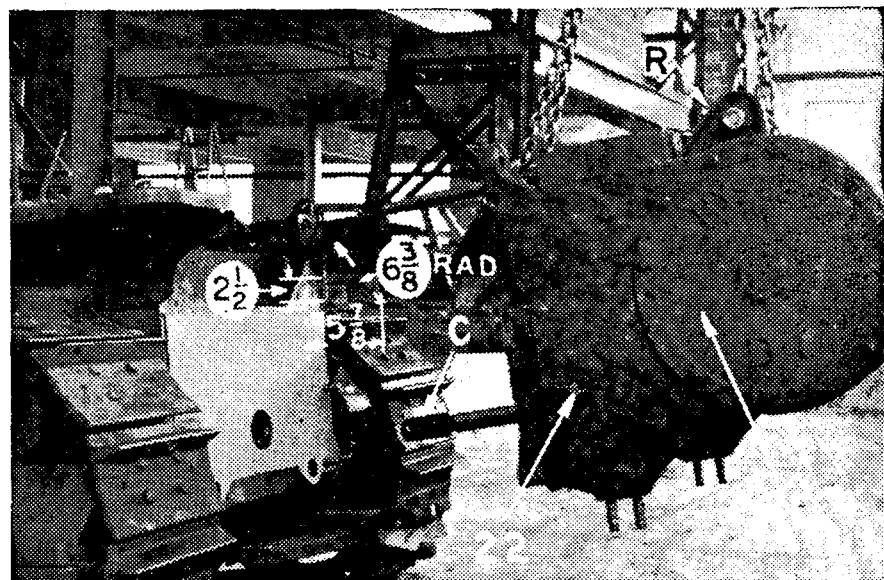

Figure 7C
3. DO NOT remove tractor fenders. Burn a $6\frac{3}{8}$ " radius arc in both right and left-hand fenders as shown in Figure 7C, page 15. Pivot point $5\frac{7}{8}$ " from tractor face and 8" down from top of fender.
8. With the aid of a ring bolt "R" (Figure 7C) through the hole provided in the winch frame, swing the winch into place on the rear face of the tractor. Make sure the splines on the power take-off shaft enter those of the coupling "C". See Figure 7C, page 15.